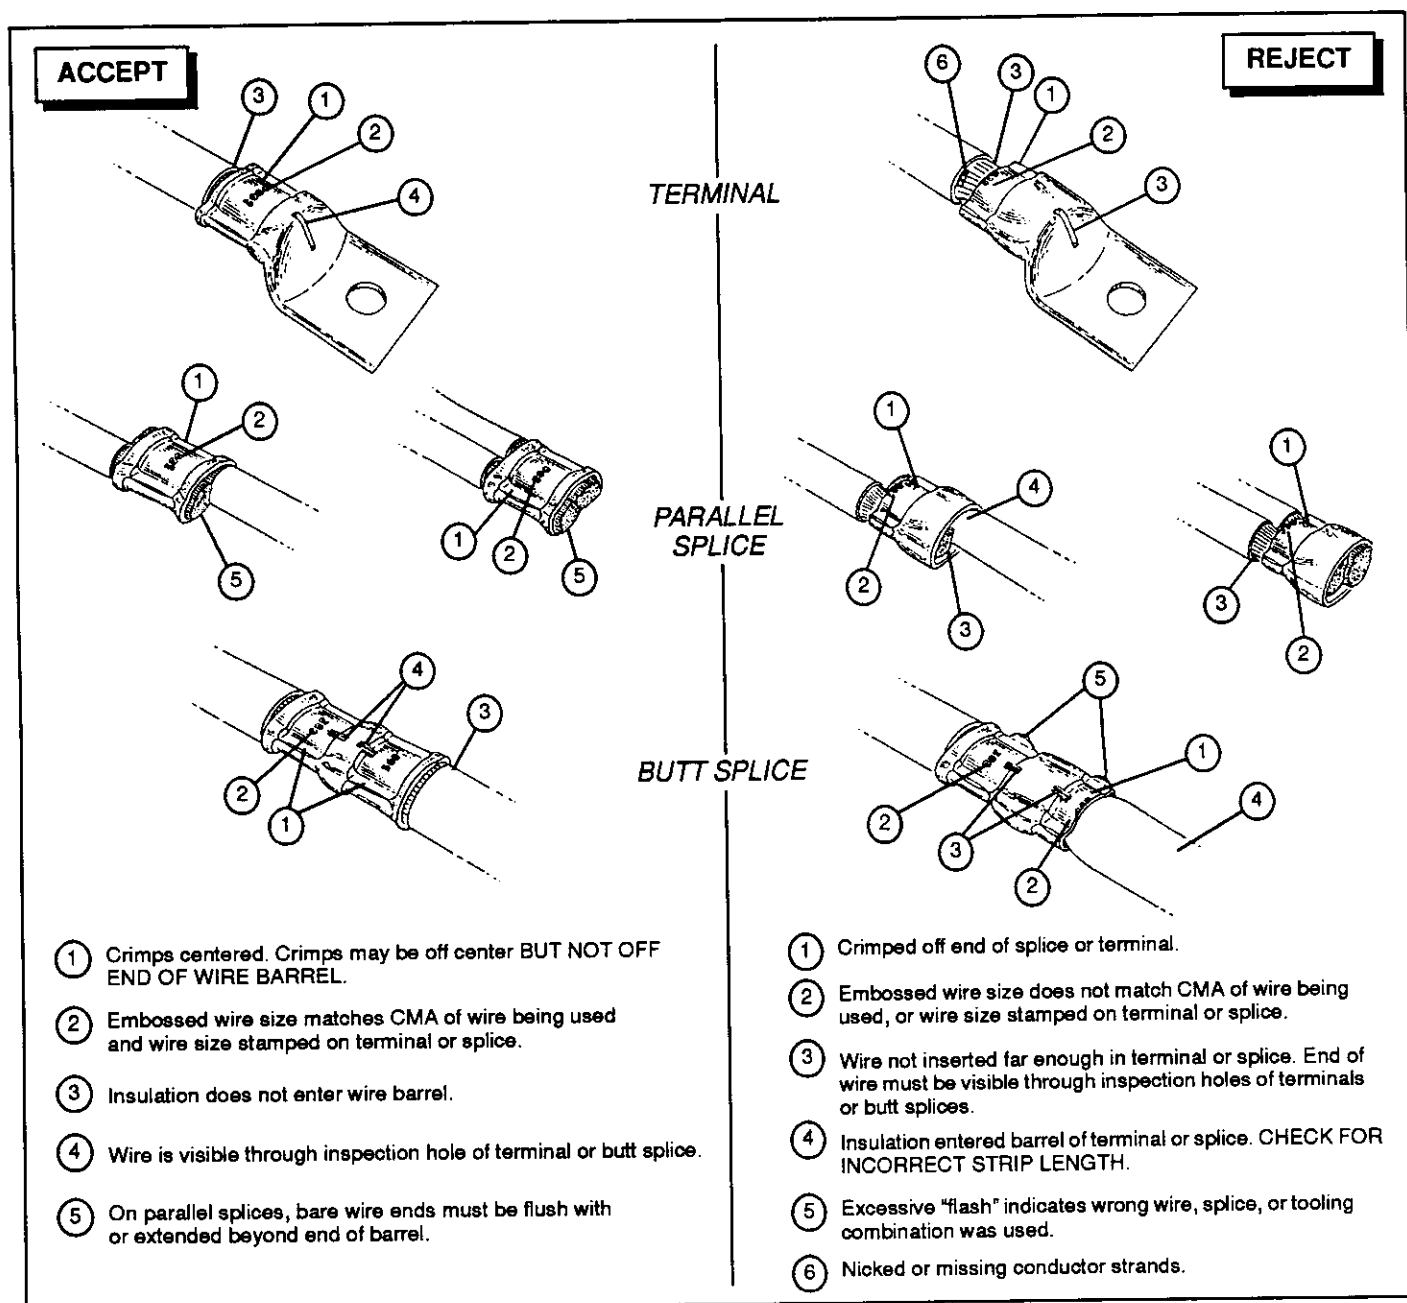

Fig. 5
**5.1. Crimp Inspection (Figure 5)****NOTE**
Inspect crimped terminals or splices by checking the features described in Figure 5. Use only terminals or splices that meet the conditions shown in the ACCEPT column. Terminals and splices displaying the features shown in the REJECT column can be avoided by careful use of these instructions and by performing the maintenance and inspection procedures described in Paragraphs 5.2 and 5.3.